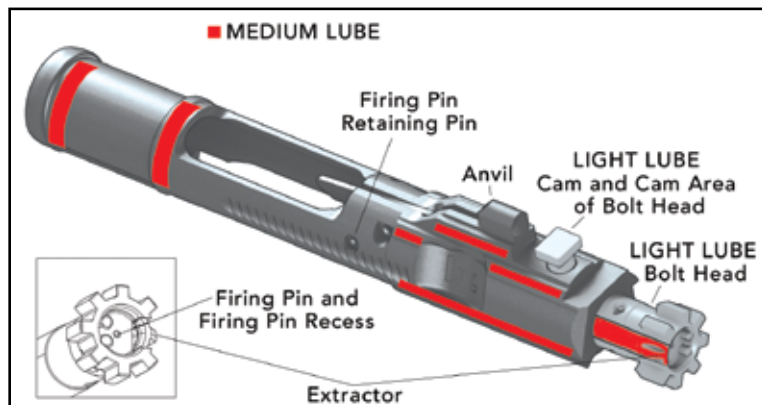

Fig. 70 – Lubrication of the Gas Piston, Piston Rod, and Barrel Nut Exterior
2. Apply a light coat of lubricant to the extractor pin, the firing pin, firing pin spring, firing pin recess in the bolt. Apply a medium coat of lubricant to the red areas (Fig 70).
3. Apply a medium coat of lubricant to the extractor (Fig. 70).